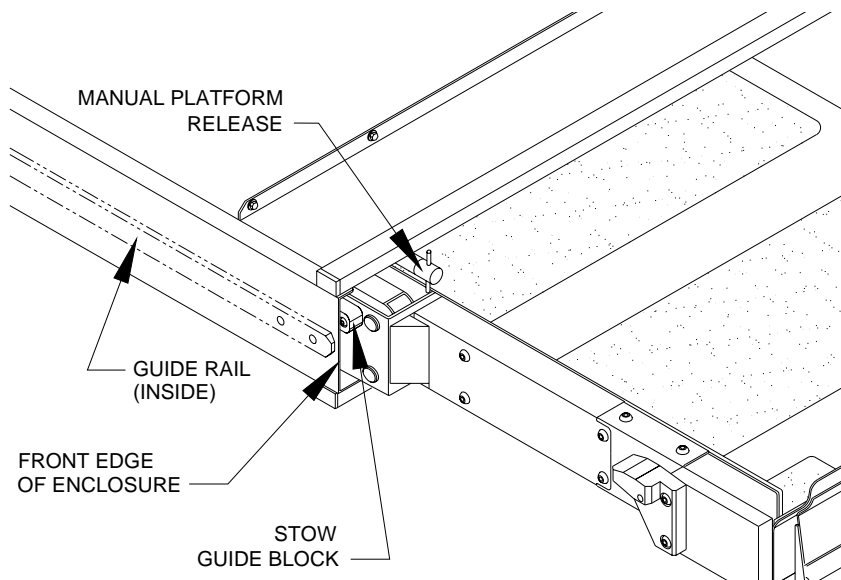

Figure 2: Stow Guide Block At Front Edge Of Enclosure
- c. Refer to **Figure 2**. Release manual platform lock and hand-push platform into enclosure. Stop pushing when the front face of white stow guide block (tear-drop shaped plastic block) is adjacent to front edge of enclosure. The stow guide block will be visible from front of lift.